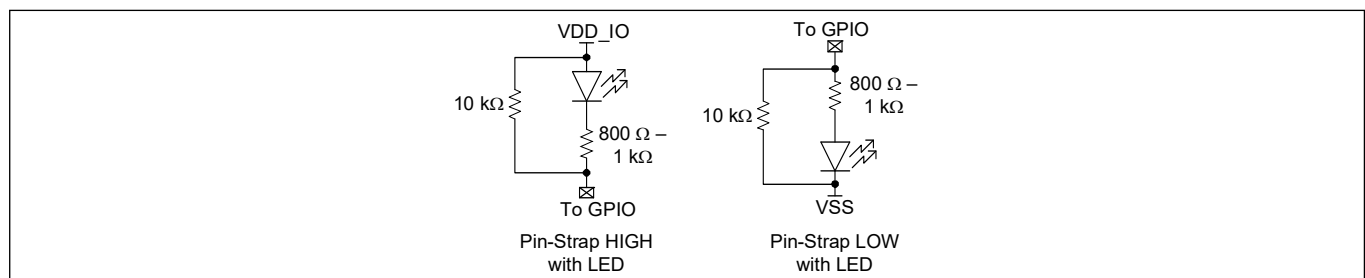
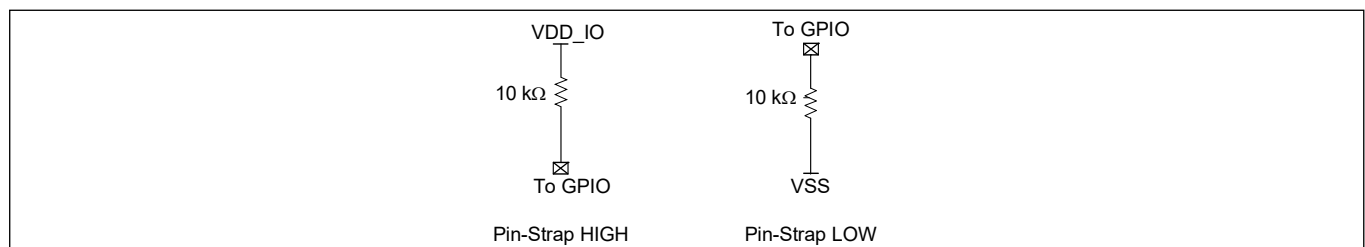

Figure 12 Pin-strap with LED or LED-only connection
Figure 13 Pin-strap connection
The pin-straps are supported for select product options (see Table 1) to provide reconfigurability without an additional EEPROM. The pin-strap configuration is enabled by pulling the Pin #63 of 88-pin QFN HIGH. Table 6 shows the configuration options supported through pin-straps and the GPIOs used for this purpose. Figure 12 and Figure 13 show how the GPIOs need to be connected if pin-strap and LED connection are required or only pin-strap is required.
7. See Figure 12 and Figure 13.